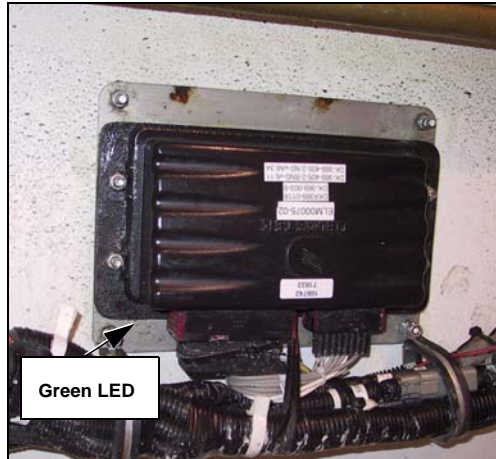

Figure 35. Electronic module
5. Locate the settings switch found on the harness feeding the module (see Figure 35. “Electronic module”).